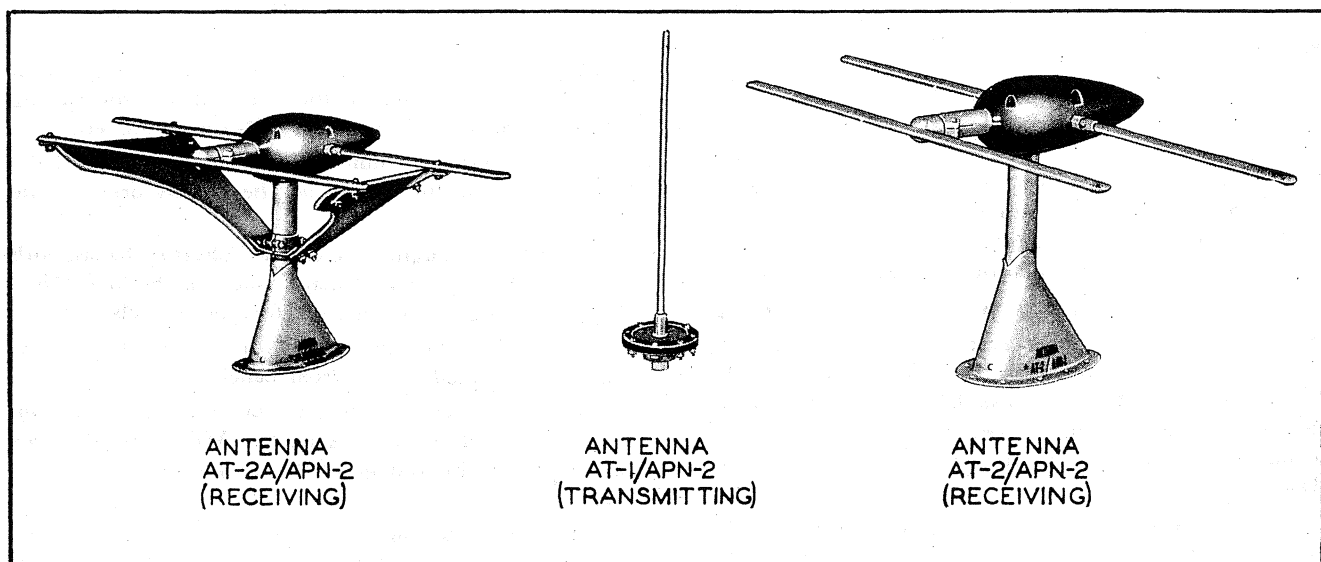

Figure 1-8. Antennas ★AT-1/APN-2 (Transmitting), ★AT-1/APN-2 and ★AT-2A/APN-2 (Receiving)
e. ANTENNA ★AT-2/APN-2 (RECEIVING).—This unit consists of a vertical dipole and a director, mounted on a single standard with a bakelite housing. There are two of these antennas used on an installation, one on each side of the fuselage, mounted with the director toward the front of the airplane. (See figs. 1-8 and 2-3.)
f. ANTENNA ★AT-1/APN-2 (TRANSMITTING).—This unit is a quarter-wave stub, vertically polarized, and mounted under the nose of the fuselage. Radio Frequency Cable RG-8/U is used with Plugs PL-259 to connect the transmitter output to the transmitting antenna. (See figs. 1-8 and 2-3.)